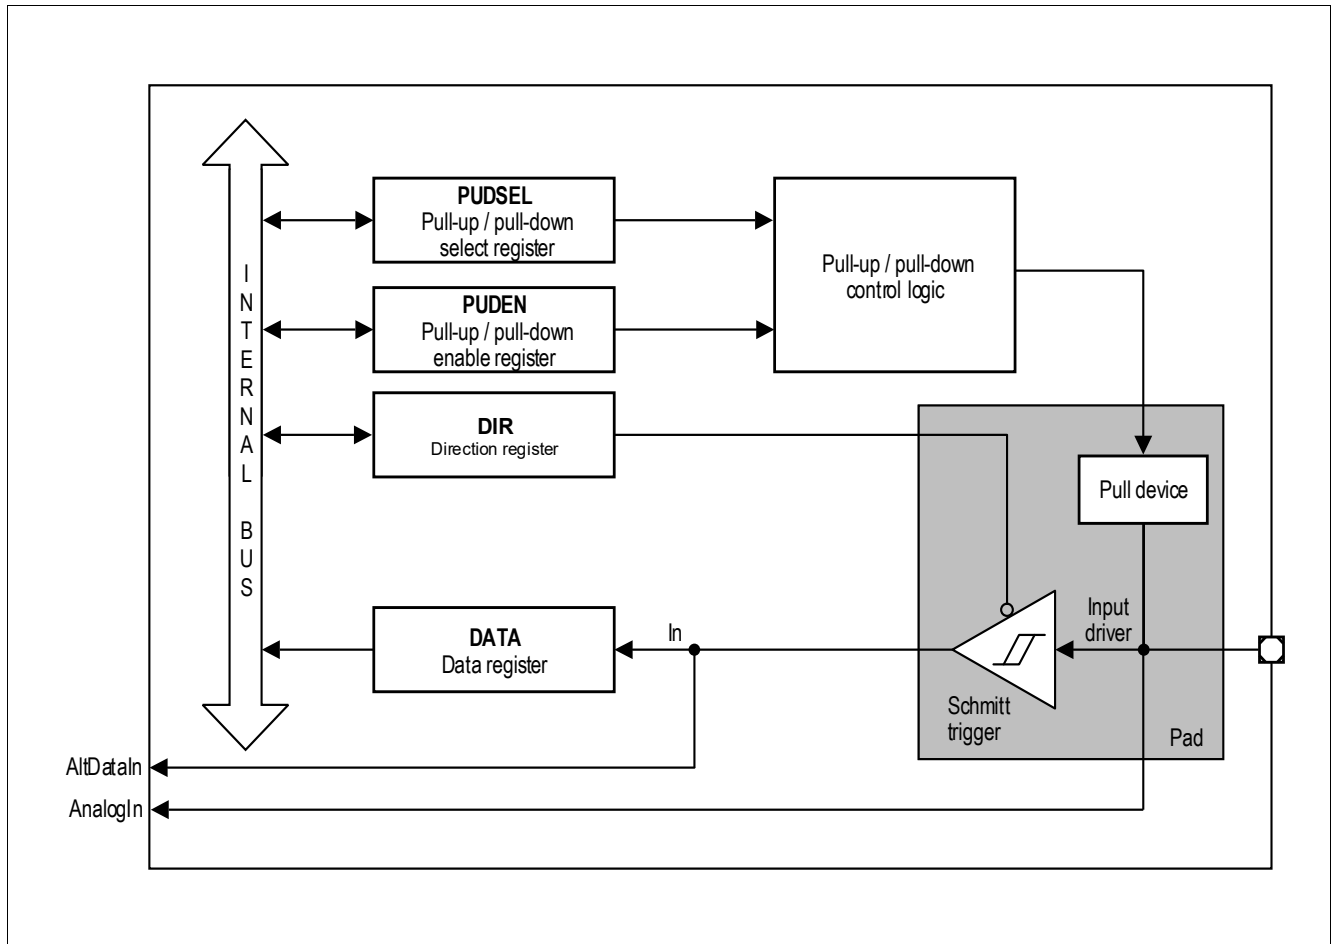

**Figure 16** General structure of a bidirectional port (P0, P1)
**Figure 16** shows the block diagram of a TLE9862QXA40 bidirectional port pin. Each port pin is equipped with a number of control and data bits, thus enabling very flexible usage of the pin. By defining the contents of the control register, each individual pin can be configured as an input or an output. The user can also configure each pin as an open-drain pin with or without an internal pull-up/pull-down.